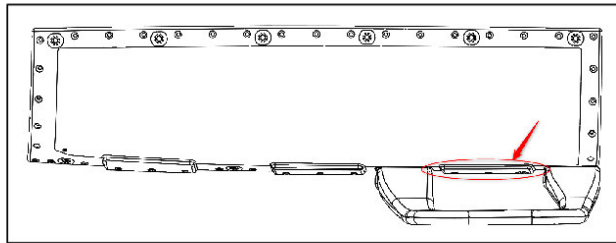

Figure 1: LH Pod Assembly Cover Cutout Location (RH Opposite)
1. Inspect the cover from underside of the aircraft looking outboard at the FWD Pod Assembly in the indicated area in Figure 1.